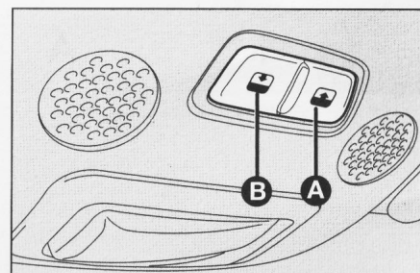

fig. 3
The soft top opening/closing can be made by controls inside the vehicle, placed next to the courtesy light, **fig. 3**, or by the remote control buttons (only for opening, in the horizontal section).
Press the "one-touch" button once **A-fig. 3** to open the top automatically to the horizontal opening position (spoiler position).
From the horizontal intermediate position press the "one-touch" button **A-fig. 3** to move the top automatically to the horizontal all open position (spoiler position).
From the spoiler position press the "one-touch" button **A-fig. 3** to take the hood automatically to all open position (vertical opening).
Press the “one-touch” button **B**-fig. 3 once to automatically close the top to reach spoiler position (vertical closing). If one of the two buttons is pressed before reaching the spoiler position, the top will stop and movement will be reversed to the initial position (all open position).
Press the button “one-touch” button **B**-fig. 3 in spoiler position to take the top automatically to safety position (approximately 25 cm from all closed position). If one of the two buttons is pressed before reaching the stop position, the top may stop in an intermediate horizontal opening position.
**NOTE** The top will not automatically close completely. Hold button **B**-fig. 3 pressed to close the top completely.
Press the “one-touch” button **B**-fig. 3 in horizontal intermediate position to take the top automatically to safety position (approximately 25 cm from all horizontal all closed position).
Hold the button **B**-fig. 3 pressed to close the top completely.